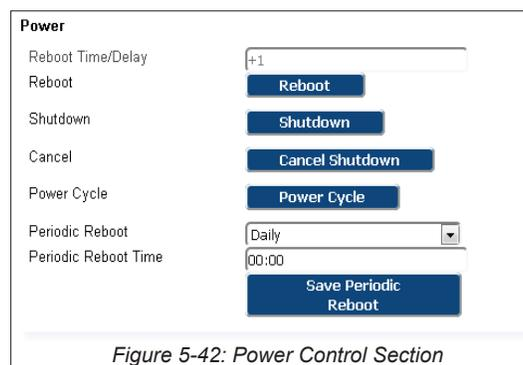

Figure 5-42: Power Control Section
Power management features such as such as Reboot, Shutdown, Power Cycle and Periodic Reboot are accessed here, Figure 5-42. Table 5.10a summarizes the controls and settings configuration.
**Table 5.10a: Power Section Configuration (See Figure 5-42)**